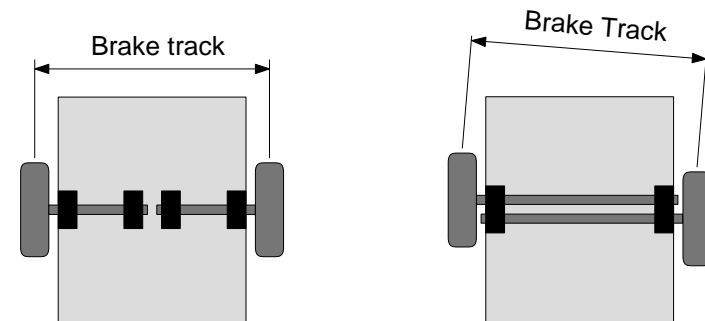
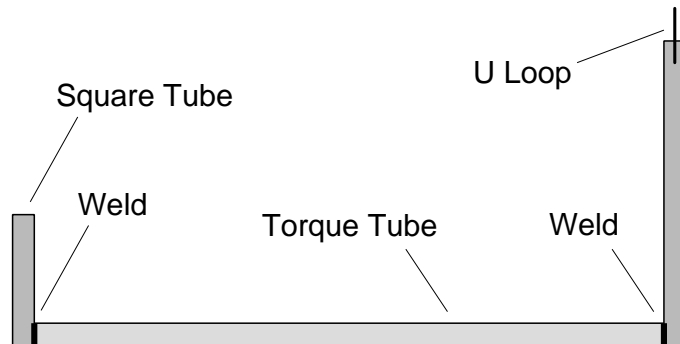

Figure 3: brake track measurement for a conventional half shaft axle and for a twin offset axle.
Figure 4: welded brake fabrication.
- 2) Start by measuring the required brake track as shown in Figures 3 and Figure 4.